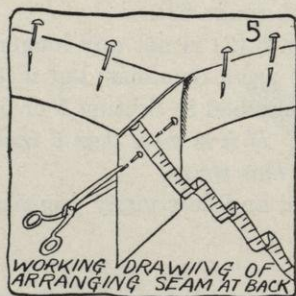

FIG. 5.
- (1) When you reach the place where you started, turn back the end of the strip you are working with, so that it will just meet the first end (see Figure 5). If you used a true bias, be sure that you fold back the end exactly *on the straight thread* of the material, so that the folded edge slants in the same direction as the end of the strip which it meets. If you used a long bias, the folded edge should *slant in the same direction* as the first end which it meets, but the threads of the seam will not be straight.
- (2) Measure and put pins $\frac{3}{4}$ inch from the folded edge to allow for the seam (see Figure 5).
- (3) Show this to your teacher before cutting to be sure you are correct.
- (4) Cut seam allowance on the line of the pins (see Figure 5), removing each pin as you come to it.